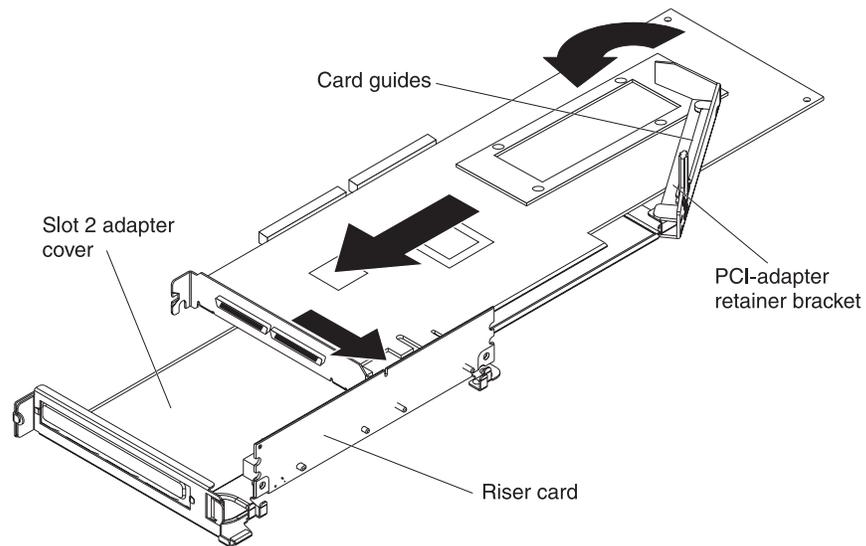

Figure 14. Riser card and adapter cover removal
3. Lift up and remove the slot 2 adapter cover. The slot 2 riser card is attached to the adapter cover, and you remove the riser card along with the adapter cover. Figure 14 identifies the components that are referred to in this procedure.